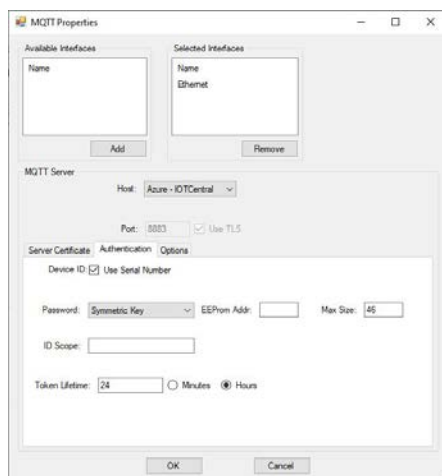

Figure 28-5B
- c. The Authentication tab requires additional configuration. Refer to Figure 28-5B.